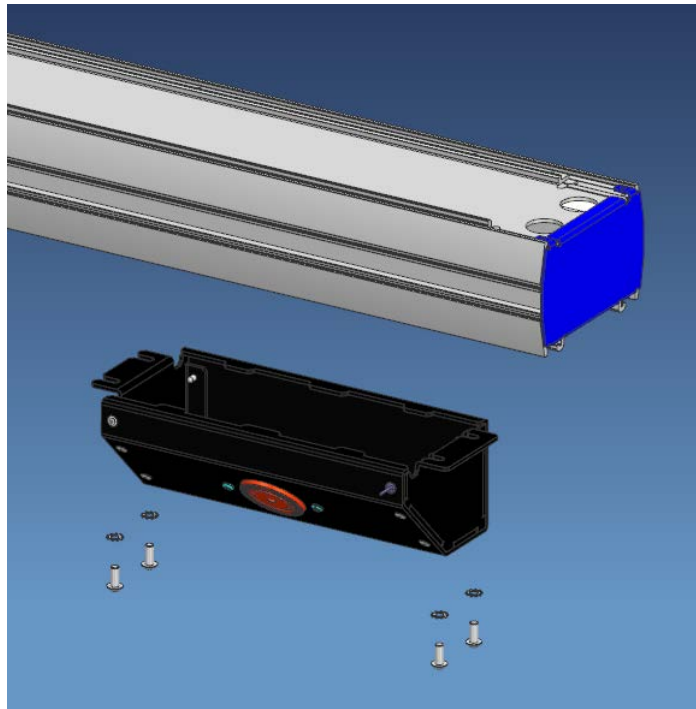

Figure 9 – Outlet housing disassembly
1. Remove screws securing outlet housing to power distribution module (Figure 9).